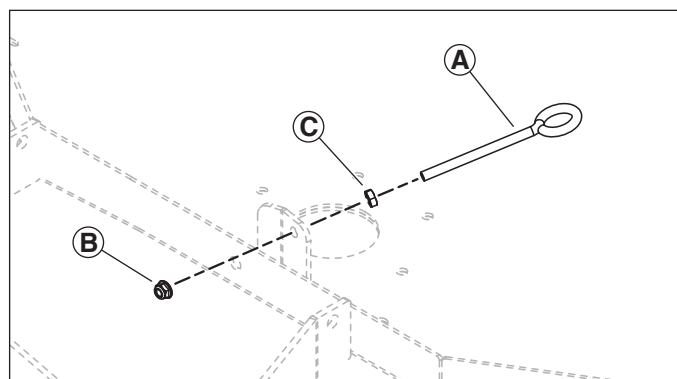

Figure 4. New Spring Anchor
3. Thread the 3/8" jam nut (**C, Figure 4**) onto the new eye bolt (**A**) and install the eye bolt onto the spring anchor bracket and loosely install the new 3/8" nylock nut (**B**).
6. Adjust the deck to a cut height of 3-1/4" and tighten down the 3/8" nylock nut (**B, Figure 4**) that secures the eye bolt until the belt tension spring body reaches 7-1/2", then tighten down the 3/8" jam nut (**C**) to secure it in place.